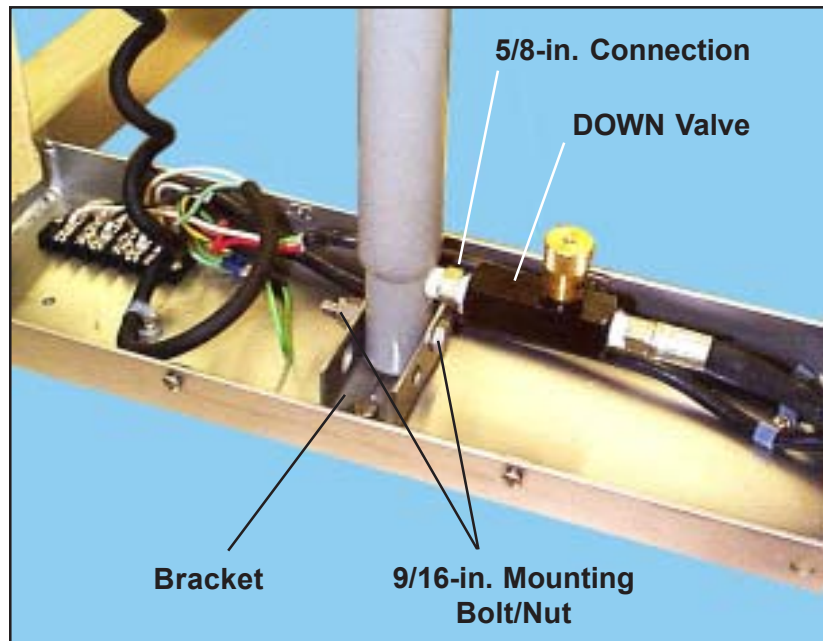

Figure 33. Lower End of Cylinder
14. Pack paper towels or shop rags under the **DOWN** valve (Figure 33) connection to catch any spillage.
1. Secure the lower end of the new hydraulic cylinder to the bracket with the 9/16-in. mounting bolt/nut (Figure 33). **Note:** Make sure the connection port for the **DOWN** valve is on the correct side.
4. Connect the **DOWN** valve connector to the hydraulic cylinder (Figure 33).